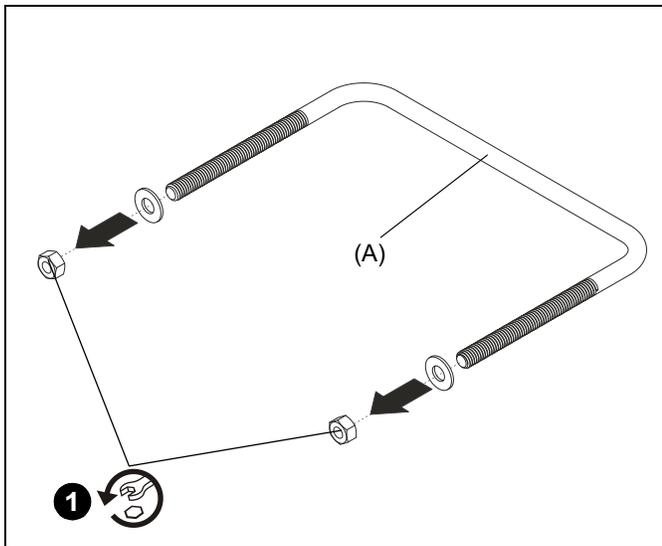

Figure 1
1. Remove hex nuts and washers from 8" square U-bolt brackets (A). (See Figure 1)